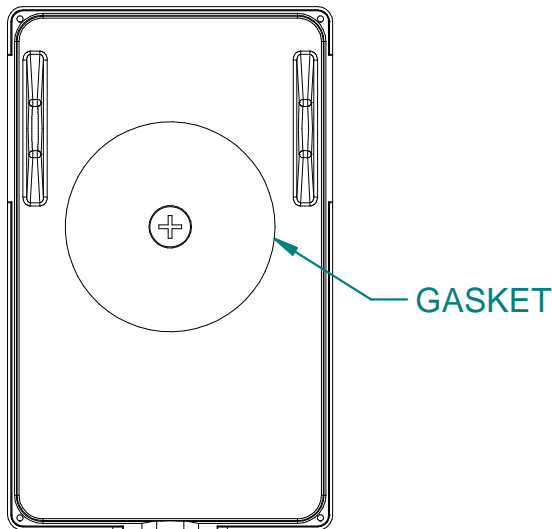

Fig. 4
- (See Fig. 4) Using the provided round gasket, remove the paper backing and stick the gasket to the back of mounting plate. This gasket will cover the junction box.